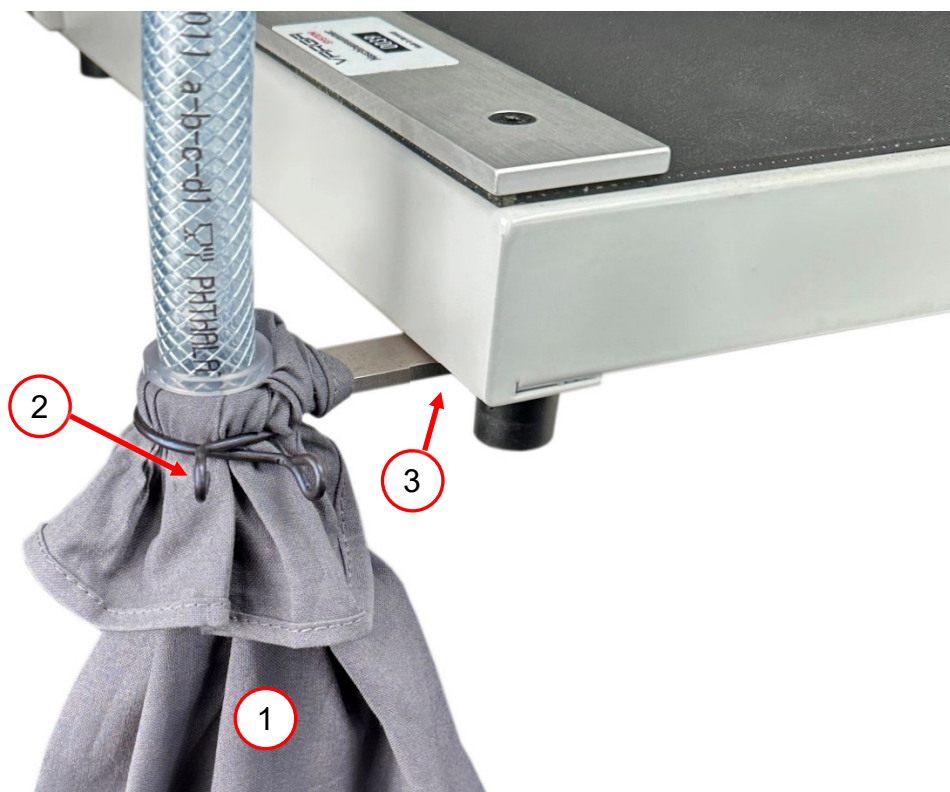

Figure 41 Fitting the VARGA VA 1
7. Unsrew the srew with snap ring (4, Figure 41) from the table underside. Use it to attach the bag holder (3, Figure 41).
8. Pull the chip bag (1, Figure 41) from below through the opening of the bag holder and secure the chip bag with the spring (2, Figure 41).